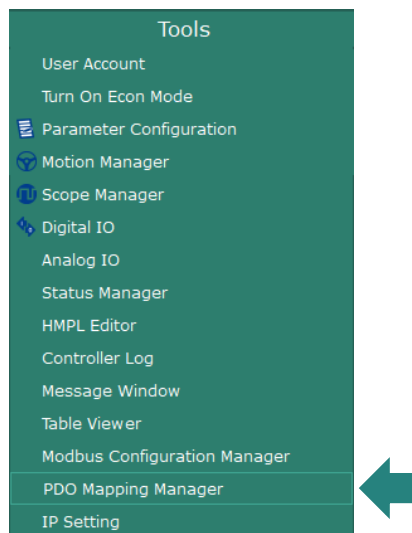

Figure 4.14.1.1 PDO Mapping Manager
Step 2: The PDO Mapping Manager window appears, as in figure 4.14.1.3.